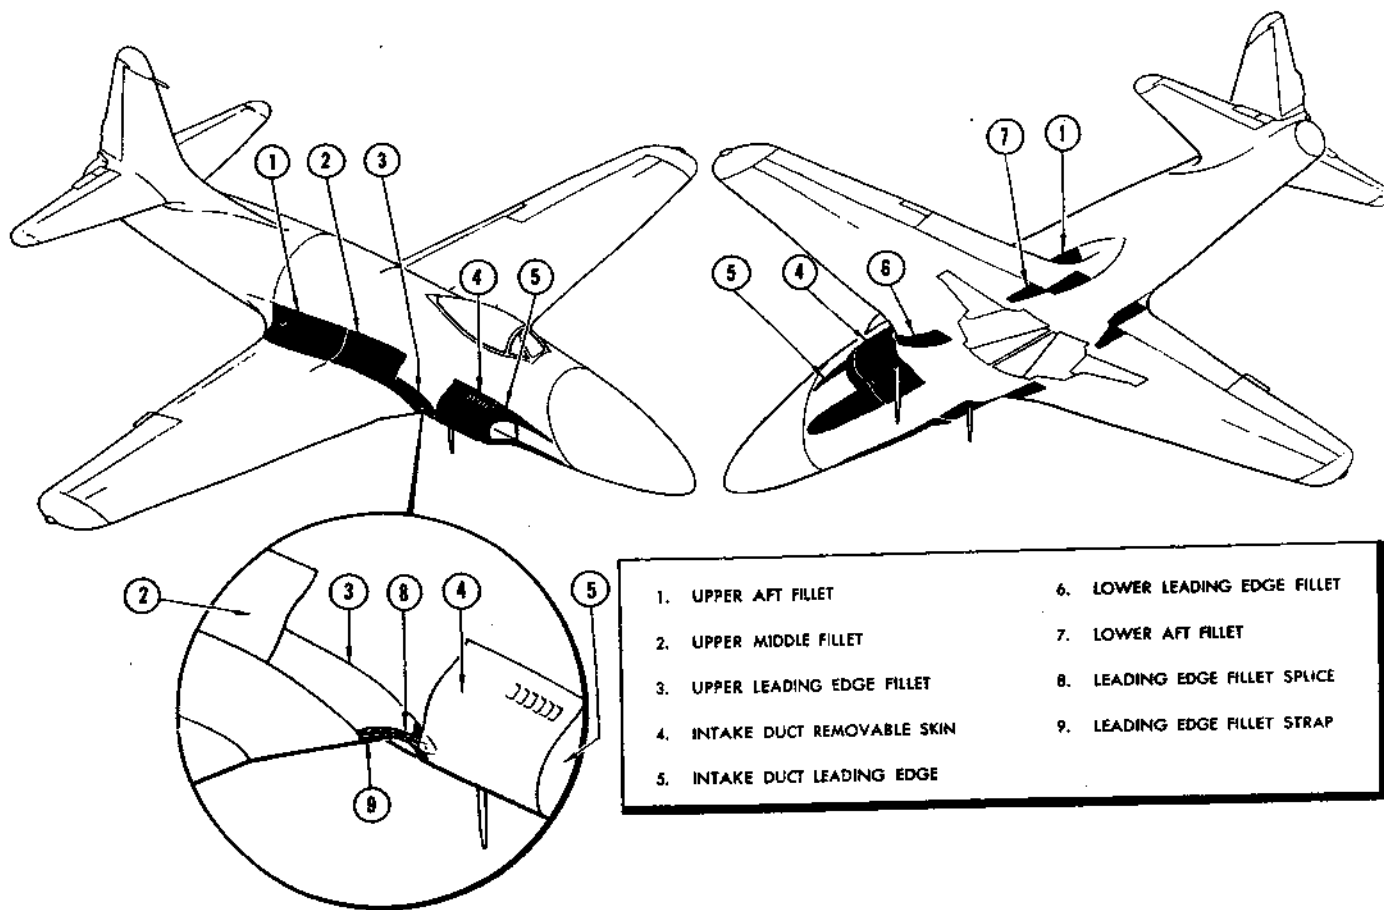

Figure 34 — Wing Joint Fillets
(f) Remove wing fillets and formers as follows (figure 34):
(r) To install wing fillets, reverse removal procedure given in paragraph b(1)(f), preceding. (See figure 34.)
1. Remove wing tip. (See paragraph d(2) following.)
2. Remove upper and lower leading-edge fittings. (See paragraph b(1)(f)2 and 3 preceding, and figure 34.)
1. Remove wing tip. (See paragraph *d* (3) following.)
2. Remove upper and lower leading-edge fillets. (See paragraph *b*(1)(f)2 and 3 preceding, and figure 34.)